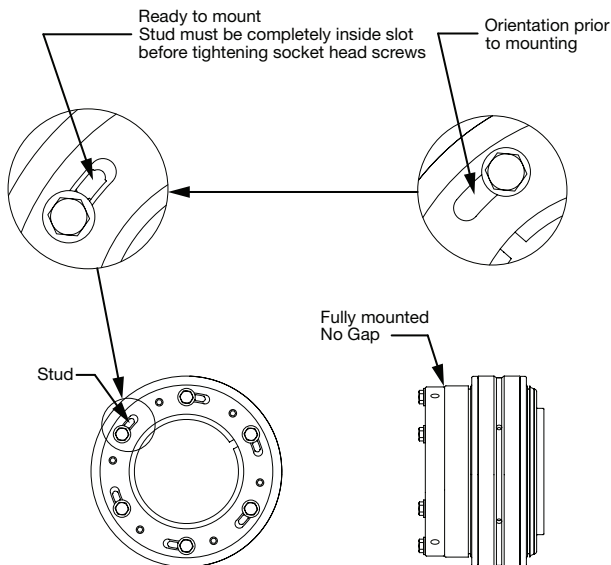
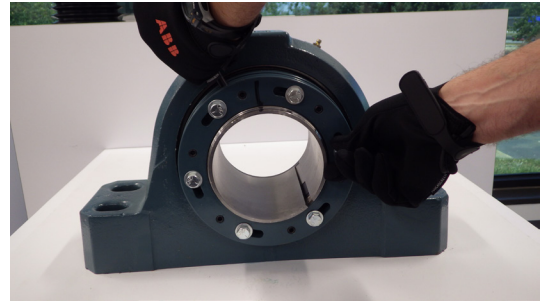

Figure 3 - Nut rotated and ready for installation
Figure 4 – Holding external nut and rotating internal nut using hex head cap screw
- Loosen but do not remove the hex head cap screws. Use 3/8” rod to hold external nut in position when loosening the hex head cap screws. While holding the external nut with a 3/8” rod, grasp one of the hex head cap screws, and rotate the internal nut counter clockwise to shoulder the hex head screws as shown in Figure 3. See Figure 4 demonstrating this step. **If the external nut moves during this step, it is imperative to reposition the nut assembly so that the external nut is positioned with the alignment mark made in step 4 before proceeding to the next step. Make sure the spacing stud is visible in the slot as shown in Figure 3, or the nut will not install correctly.**
- At this point the machined studs used to create the gap have been positioned inside the elongated slots, and the two nuts can be pulled together, which installs the bearing on the shaft. **If the external nut moves during this step, it is imperative to reposition the nut assembly so that the external nut is positioned with the alignment mark made in Step 4 before proceeding to the next step.** Gradually tighten the hex head capscrew in a star pattern until the external nut firmly seats against the internal nut and the gap is completely closed as shown in Figure 3.